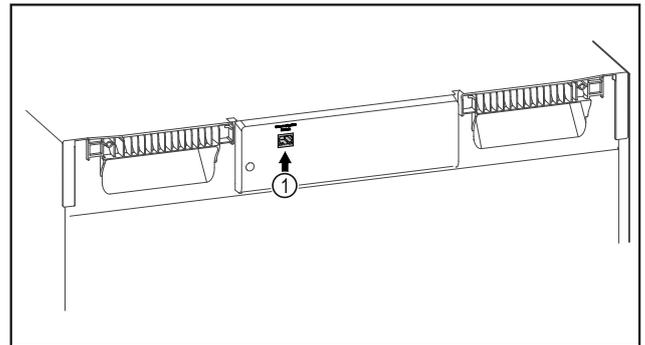

Fig. 103
- SmartModule Fig. 103 (1) is in use.